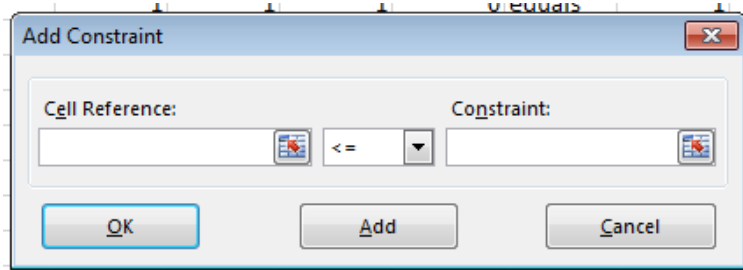

Figure 4: The constraint entry box
2. Next, enter the constraints of the problem. Click on “Add”, and a new dialog box pops up. See screenshot (fig 4). For the first constraint, in the “Cell Reference” box enter the name of the cell that we have used to calculate the value of the left-hand side of the constraint; for us, this is \$G\$6 (as before, you can either type “\$G\$6” into the “Cell Reference” box, or click on cell G6 while the cursor is in the “Cell Reference” box). In the middle box select “ $\leq$ ” if the constraint is a less-than-or-equal-to constraint, “ $\geq$ ”